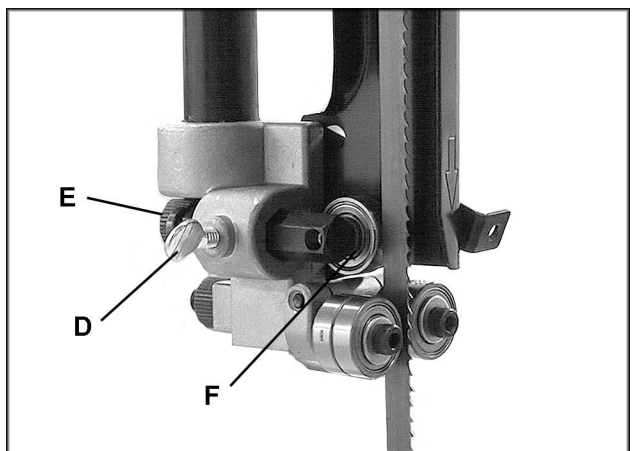

Fig. 28
5. Loosen thumb screw (D, Fig. 28) and turn knob (E, Fig. 28) to move the support bearing (F, Fig. 28) in or out until the bearing is approximately 1/64" behind the blade. A simple way to set this distance is to place a piece of paper or a dollar bill between the support bearing and the blade.
6. Tighten thumb screw (D, Fig. 28).